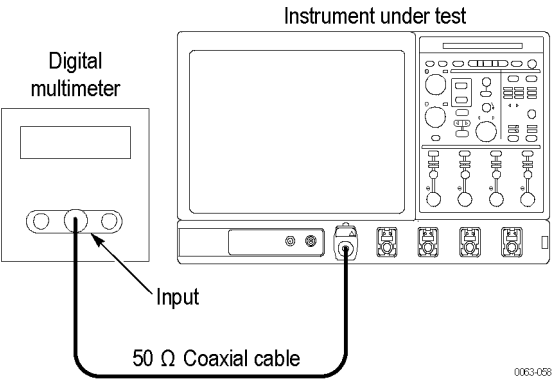

Figure 24: Input resistance test hookup, ≥ 4 GHz models
- Hook up the test-signal source:* Connect, through a 50 Ω precision coaxial cable, the input of the multimeter to **Ch 1** through adapters. (See Figure 24: Input resistance test hookup, \$\geq 4\$ GHz models on page 238.)